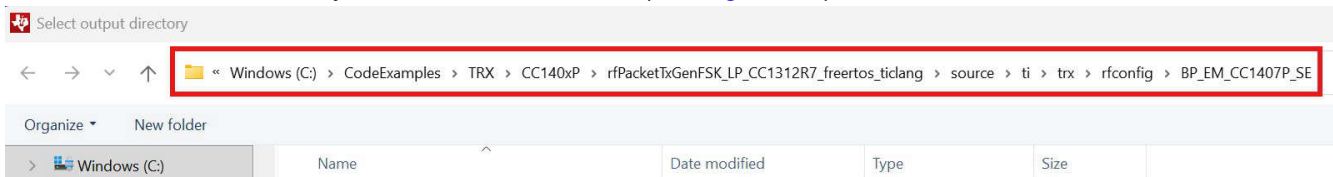

Figure 3-3. Output Directory
- Select the folder where you want to store the files (see Figure 3-3).